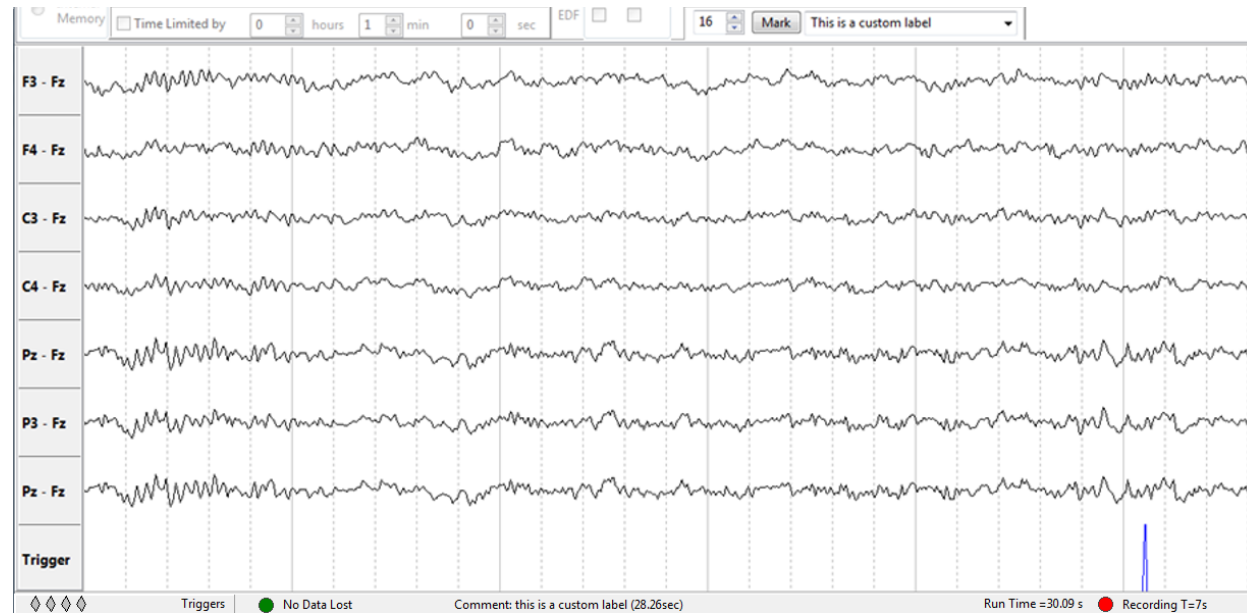

Figure 17 – A custom event has been inserted
- A red marker will at the bottom right of the screen indicates “Recording” status and display recording (or remaining) time during recording. (Figure 17)
- To add your own custom labels, simply click the text in this menu, and type out a label of your choosing., as shown in Figure 17:
In Figure 17, an event is marked with a value of 16 and a label of “This is a custom label” during recording, producing the spike in the Trigger channel seen in the lower right corner. The labels are visible in the bottom bar of DSI-Streamer (seen in Figure 17) and are recorded in the far right column of the .csv data file generated during this recording, shown in Figure 18.